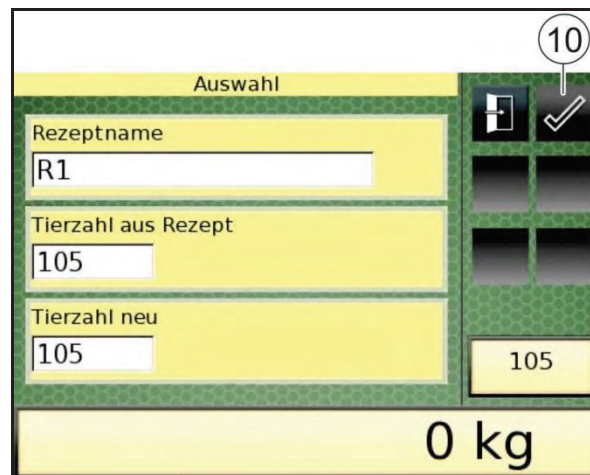
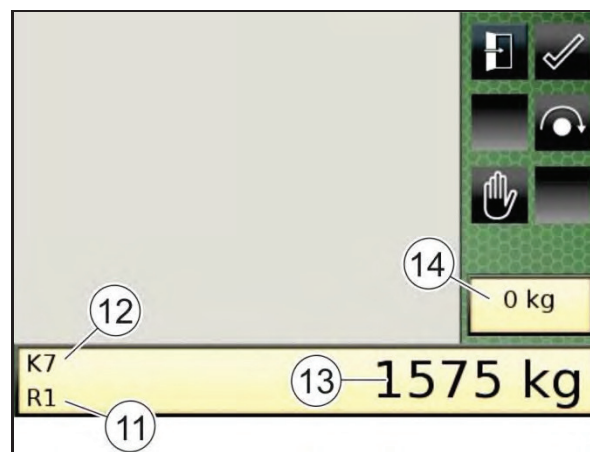

Fig. 220
Fig. 221
- Instead of the camera picture, the terminal displays an overview of the selected recipe (Fig. 220) including:
- 7. Press the "Confirm" key (10) to confirm your entry.
- The charging mode is started. The "Charging mode" display (Fig. 221) appears.